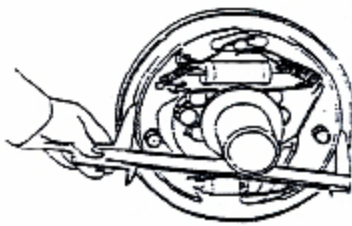

Figure 9
(5) Parking brake cable is stuck with E-shaped retaining ring.
(6) Install the brake shoe with a fixed spring, as figure 9